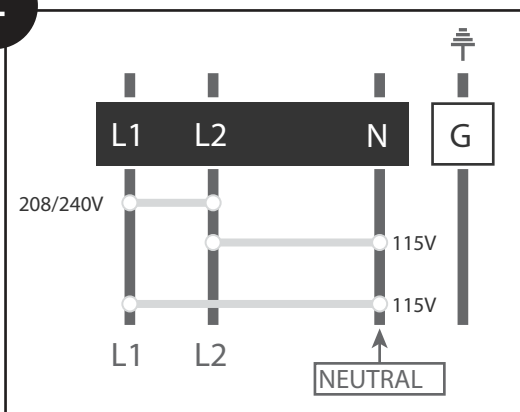

Fig. 8
**!** CONNECT THE INCOMING POWER AS SHOWN IN FIG. 8.